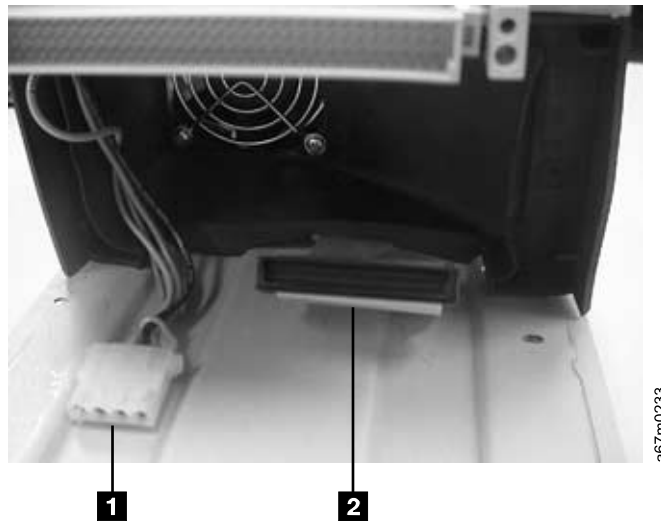

Figure 105. Unplugging Power and SCSI Cables
6. Being careful to ensure that the 422 cable is guided over the rubber shroud, slowly pull out the drive far enough to disconnect the power **1** and SCSI cables **2** from the rear of the drive (see Figure 105).